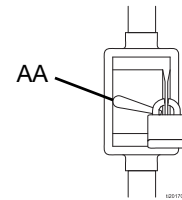

FIG. 9: Electrical Disconnect
**NOTE:** Ensure that the electrical disconnect (AA) is shut off and locked out before wiring. See FIG. 9.